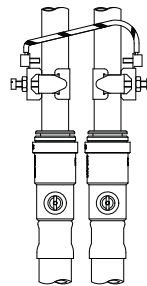

Fig. 10
- 4.15 **Adjacent pipes:** Adjacent suction and delivery pipes should be fitted with earthing clamps to BS 951 and connected with earthing wire size 4 mm² (Fig. 10).